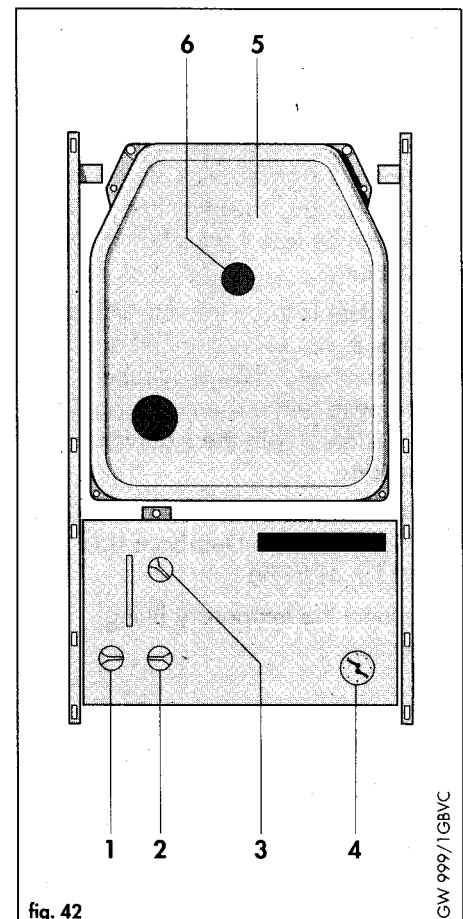

fig. 42
Set the boiler flow temperature control (3, fig. 42) to the desired setting. The following settings may be used as a guide:
Note: The boiler is fitted with a combustion analysis test point (6, fig. 42). A suitable combustion analyser can be connected to this point to establish the combustion performance of the boiler.
Operate the boiler by turning on all external controls and turning the on/off control (1, fig. 42) to the 'on' position (I). Inspect the burner operation through the viewing window. Check that the flames are burning evenly over the full surface of the burner. Inspect for signs of excessive lifting or sooting.
- Turn off the gas service valve (2)
6.2.3 Remove combustion chamber front cover (5, fig. 42)